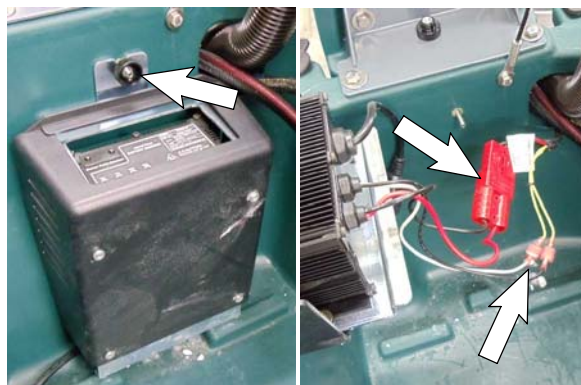

Fig. 2
2. Remove the old on-board battery charger from the machine and disconnect the red plug and harness wires as shown (Figure 2).